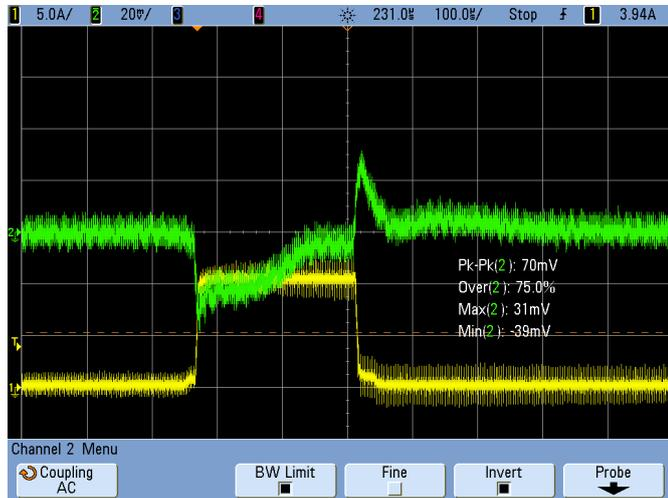
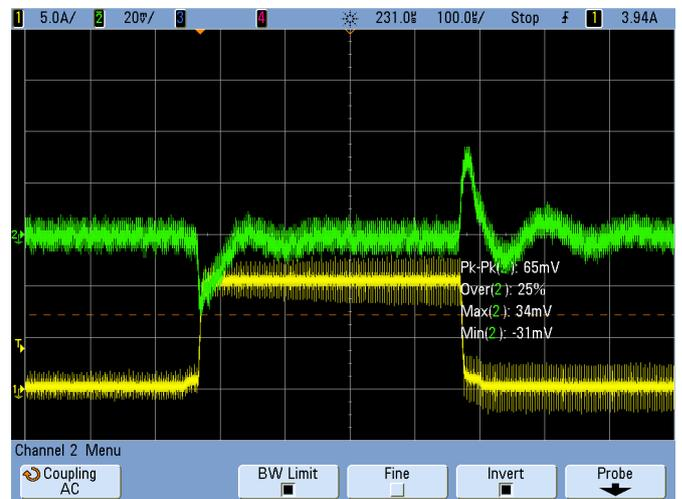

Figure 25. Transient response of NLR example with 'basic' optimized PID coefficients and $-2/+3\%$ NLR inner thresholds.
Figure 28. Transient response using 'Optimized' PID coefficients and $-2/+2.5\%$ NLR
So we've gotten a response that has improved recovery times, but let's try to optimize the peak a bit further by lowering the NLR thresholds to improve our peak deviations. Setting our inner thresholds to $-2/+3\%$ yields the following result shown in Figure 25.
Let's improve the peak deviations and ripple by decreasing the NLR inner thresholds to $-2/+2.5\%$, resulting in what's shown in Figure 28.
- NLR works best when the output impedance is minimized. Furthermore, as observed in comparing Figure 25 to Figure 28, the performance of the PID coefficients will influence the performance of the NLR circuit.